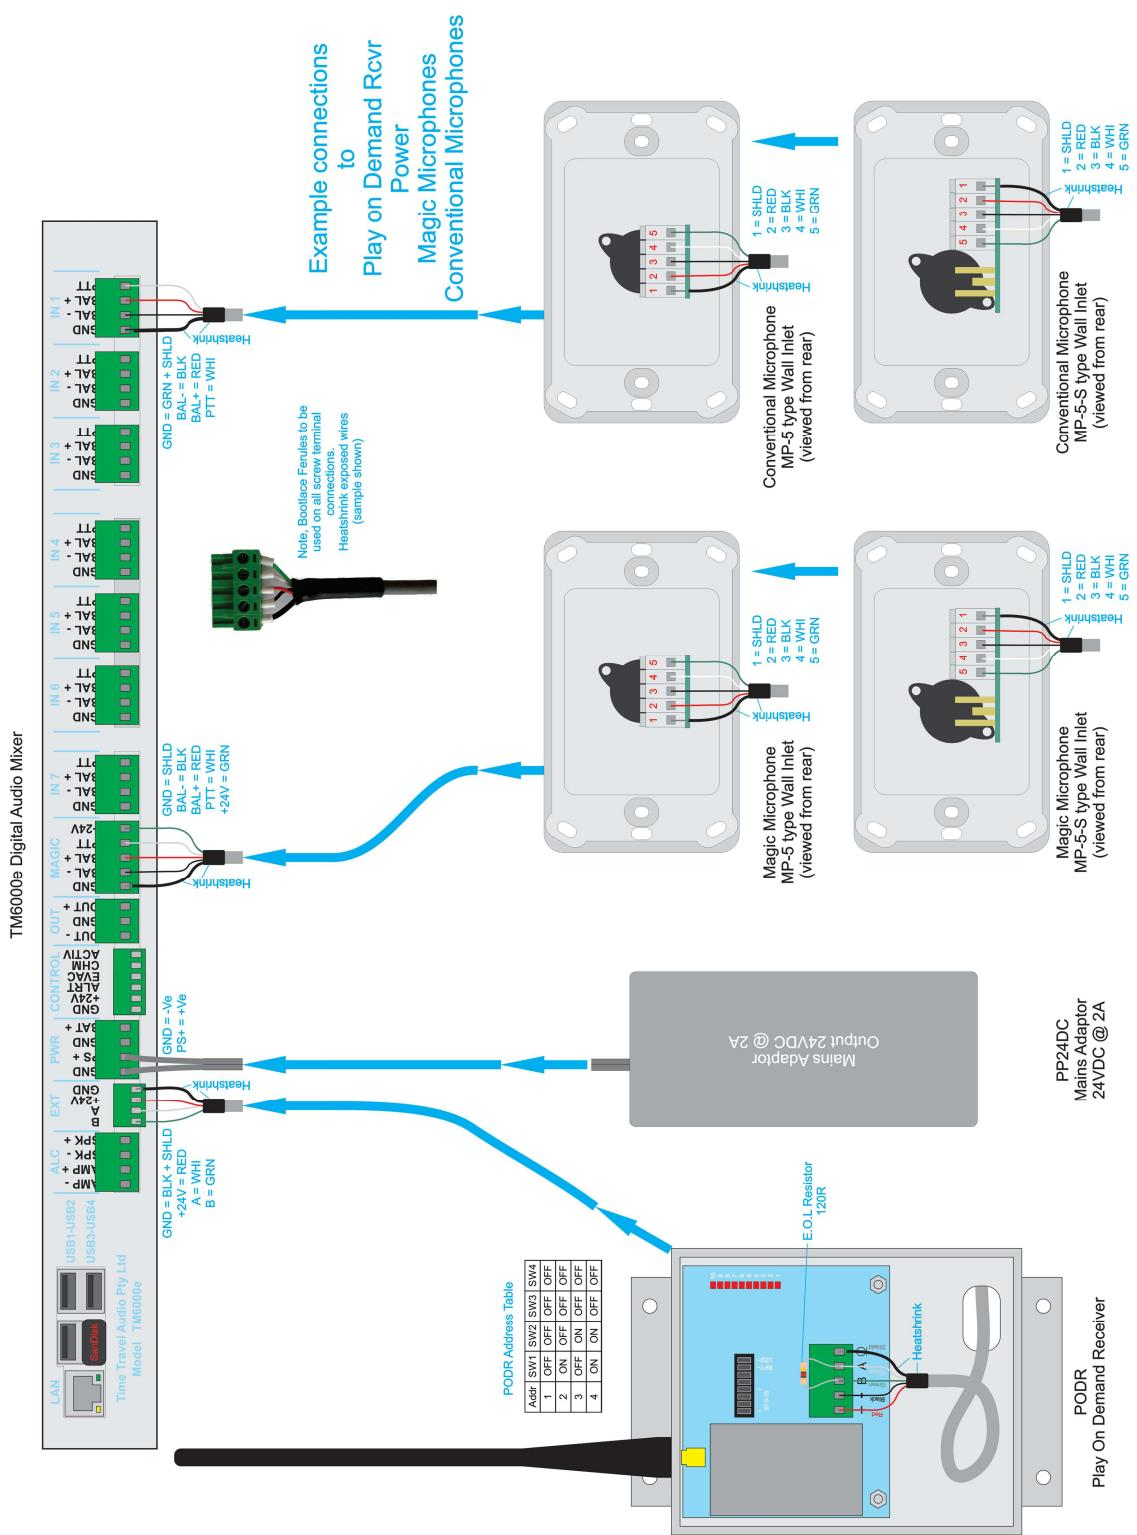

Figure 1 - TM6000e Example Connections – Play on Demand Receiver, Magic Microphones and Conventional Microphones
| Figure 1 - TM6000e Example Connections – Play on Demand Receiver, Magic Microphones and Conventional Microphones | 5 |
- a) Connect as per figure 1 on page 5
- a) Connect as per figures 1 and 2 on page 5 and 6